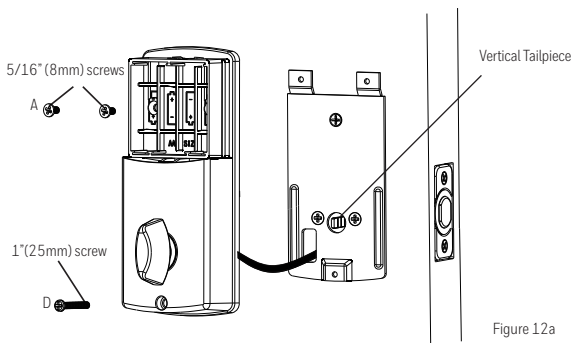

Figure 12a
- Make sure the tailpiece (Figure 12a) is in the vertical position.
- Position the Interior Assembly over the vertically positioned tailpiece and carefully push the Interior Assembly against the door (Figure 12a).